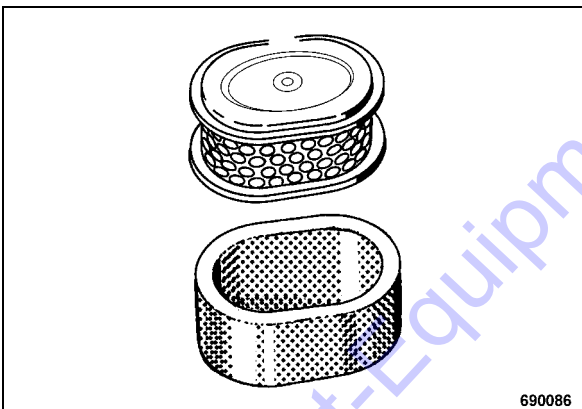

Fig. 48
- Separate the foam rubber and the paper element of the air filter (Fig. 48).